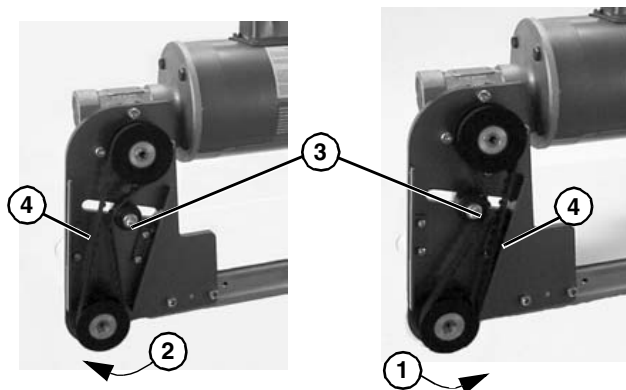

Figure 21
10. Depending on conveyor belt travel (direction 1 or 2 on Figure 21), locate timing belt tensioner (Figure 21, item 3) as shown. Tension timing belt to obtain 0.125" (3 mm) deflection for 1.0 lb (456 grams) of force at timing belt mid-point (Figure 21, item 4). Tighten tensioner screw to 103 in-lb (12 N-m).
3. Depending on conveyor belt travel (direction 1 or 2 on **Figure 21**), locate timing belt tensioner (**Figure 21, item 3**) as shown. Tension timing belt to obtain 0.125" (3 mm) deflection for 1.0 lb (456 grams) of force at timing belt mid-point (**Figure 21, item 4**). Tighten tensioner screw to 103 in-lb (12 Nm).
5. Depending on conveyor belt travel (direction 1 or 2 on **Figure 21**), locate timing belt tensioner (**Figure 21, item 3**) as shown. Tension timing belt to obtain 0.125" (3 mm) deflection for 1.0 lb (456 grams) of force at timing belt mid-point (**Figure 21, item 4**). Tighten tensioner screw to 103 in-lb (12 N-m).